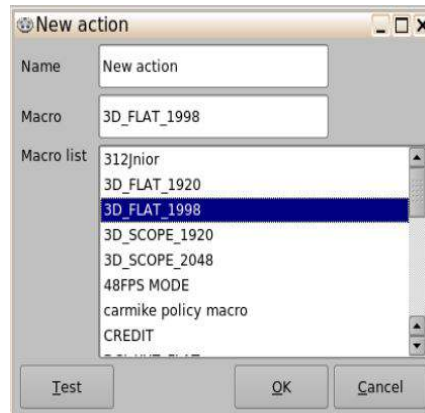

Figure 81: New Action Window
- Input the desired name of the new action (Figure 81).
- Select the type of Macro from the Macro list (Figure 81).
- Click on the OK button to add the new action to the section (Figure 81).